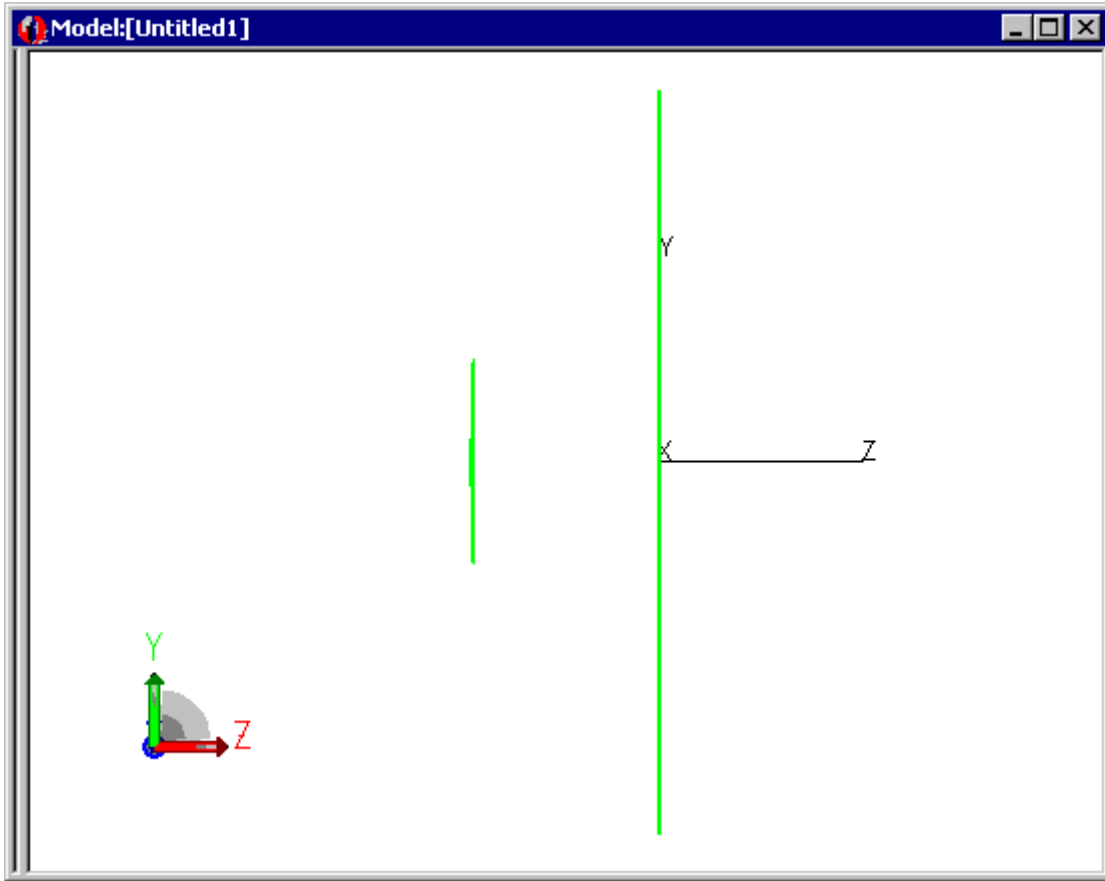

FIGURE 9.24 - The Model Window Display at the Current Step of the Example
- c. Select the end surface of the cylinder that is located at $z=0$. In the **Apply Properties** dialog, select the *Diffraction* tab, check the check box, and press Apply. At this point, the model should look like the figure shown in Figure 9.24.